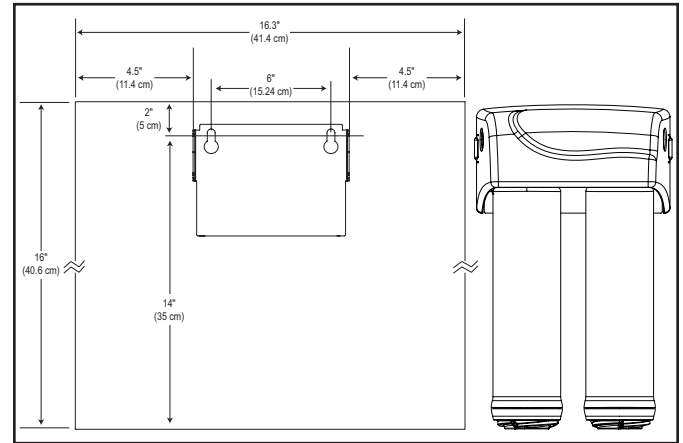

Figure 4
- Mount the system vertically (Figure 4). Dimensions in the diagram allow for cartridge removal or system removal. Ensure that the mounting is level.